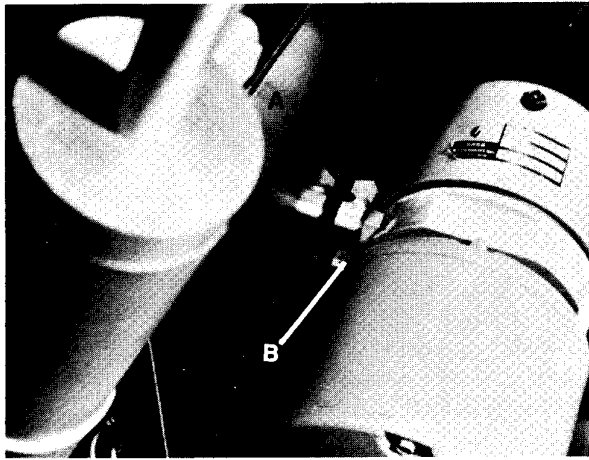

Fig. 42
- 5) Remove the acquire hose, Item A, Fig. 42 and return hose, Item B, Fig. 42 from the pump by removing the fittings with a ½" wrench.
- 6) Tilt motor base on end (toward motorend) and remove the (2) hex bolts securing the motor/pump to the motor base.
- 9) Place new motor/pump on motor base, align holes on the underside, and install (2) ½" lockwashers and (2) ½"-13x1" hex bolts.
- 11) Install the acquire hose, Item A, Fig. 42 at the top port of the pump and install the return hose, Item B, Fig. 42 at the bottom port of the pump, tightening the fittings securely with a ½" wrench.